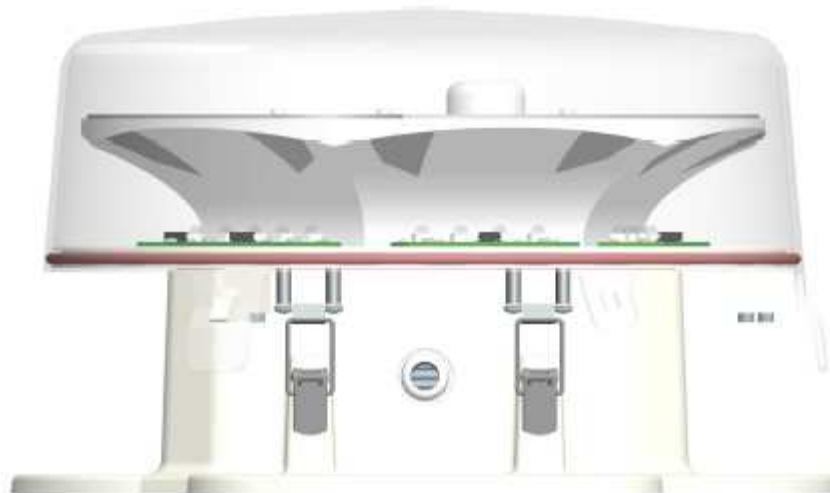

Figure 1
- Figure 1: L-864 Flashing Red Beacon Assembly
The L-864 Flashing Red Beacon as shown in Figure 1, (hereafter referred to as the Beacon) operates from 120 / 240VAC 50/60 Hz. The beacon consists of visible-light and Infrared-light, high Performance LED's that provide the light output equivalent to an incandescent fixture while consuming a fraction of the electrical power. This manual provides guidance and recommendations for the installation and testing of the beacon assembly. Please read this document in its entirety before installing the Beacon.